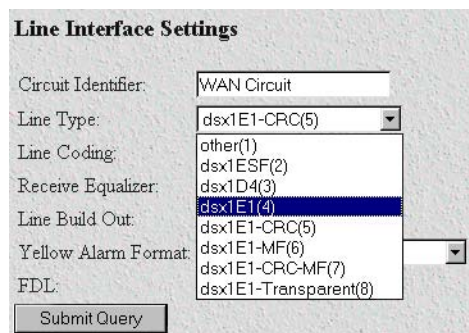

Figure 37. Line Type pull-down menu
- From the *Line Type* pull-down menu (figure 37) select *dsx1E1(4)* or *dsx1E1-CRC(5)*.